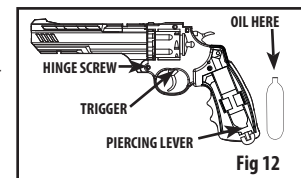

Fig 12
- Oil the piercing lever, trigger and hinge screw (Fig. 12) every 250 shots.